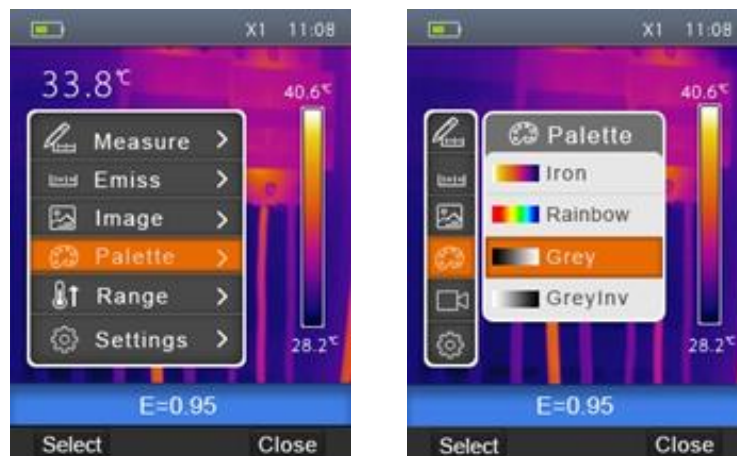

Fig. 26: Setting the colour palette
1. Select the item "Palette" using the keys  or  and press the key . The screen Fig. 26 – Right side is shown on the display